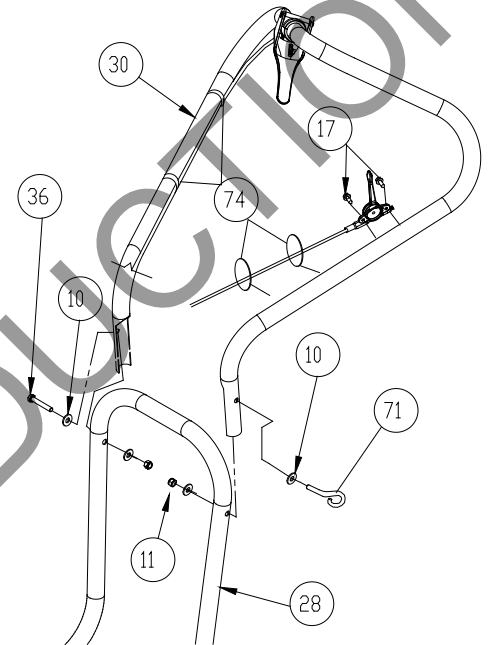

Fig. 1
1. The hardware for attaching the upper handle to the lower is in the parts bag. Install upper handle (item 30), to preassembled lower handle (item 28) by sliding the upper handle over and down the outside of the lower handle. Using the bolts (items #36 and #71), washers (item #10) and lock nut (item #11) to install upper handle to lower handle. *NOTE:* The Pigtail bolt should go on the side that the pull start is on and the open end should be facing down. Finish installing the other side of the upper handle assembly using screw and lock nut provided. (See Fig. 1)